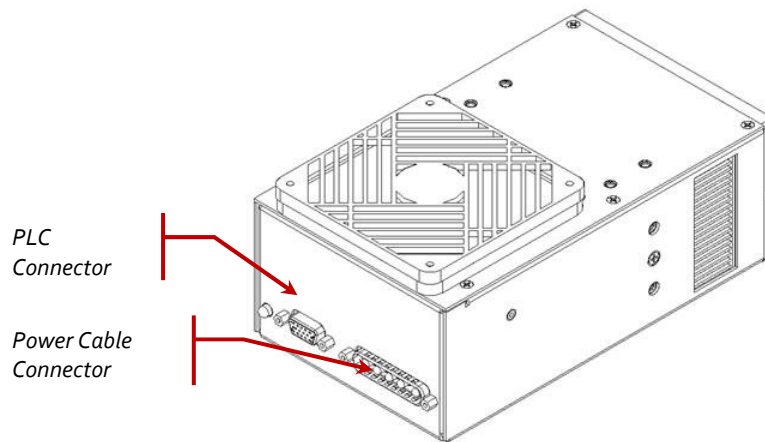
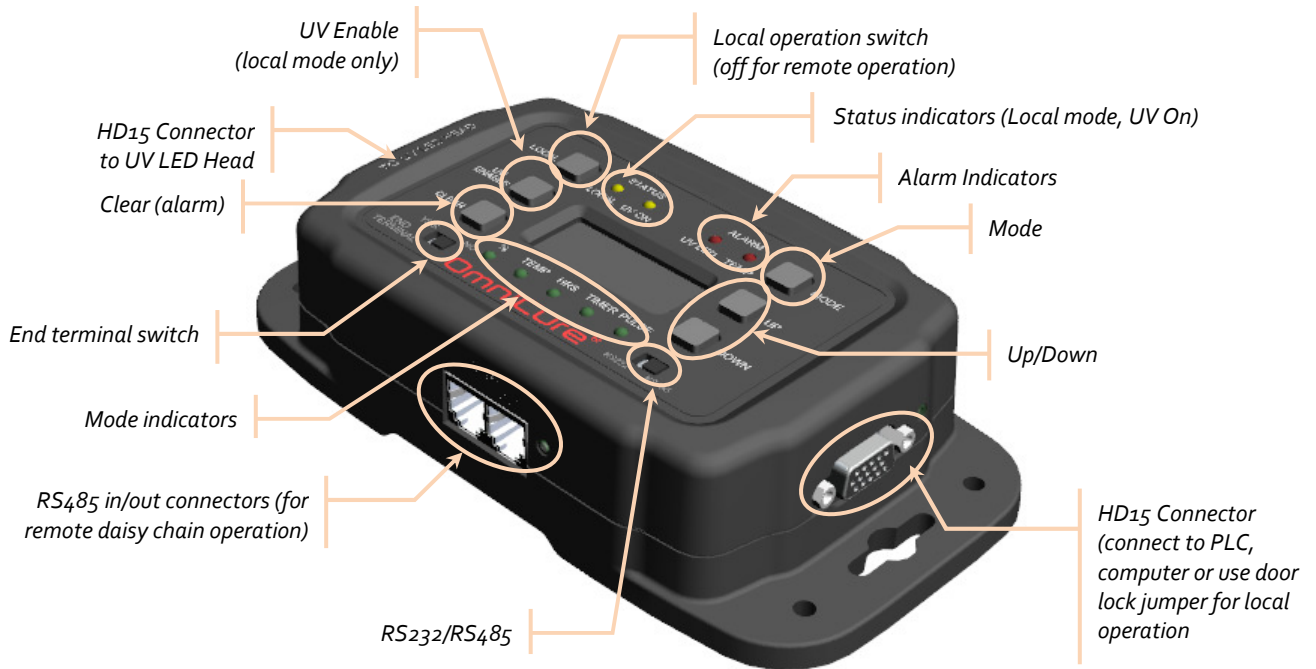

Figure 1 UV LED Head Connection Ports
Figure 2 PLC Console (PLC2000 Remote Control Console shown)
3. Attach the male end of the power cable to the power supply unit, and connect the female end of the power cable to the UV LED Head per Figure 1
4. Attach the female end of the PLC cable to the PLC I/O connector on the PLC2000 (see Figure 2) and the male end of the PLC cable to the UV LED Head (see Figure 1).
5. Connect the PLC loop-back connector to the PLC pass-through port. Refer to Figure 2.
7. Adjust intensity using the up or down buttons to the right of the display (see Figure 2), to increase and decrease the intensity respectively. Refer to Section 6, "Using the LED Head".
8. UV LED & Temperature faults will be indicated by an illuminated LED on the control console. To clear, press the Clear Fault button (see Figure 2).